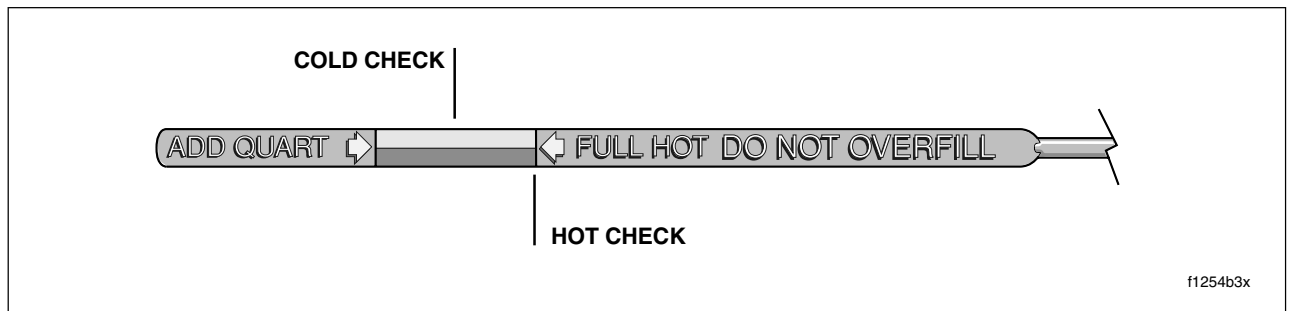

Figure 1-2. Engine Oil Dipstick
- b. Remove the dipstick and note the level of the oil. Oil level should register between the two arrows on the dipstick. See Figure 1-2. If oil level is at or below the lower arrow, add only enough oil to bring the level between the two arrows on the dipstick.
- d. Remove the dipstick and note the level of the oil. Add only enough oil to bring the level to the FULL mark on the dipstick. See Figure 1-2. Do not overfill.